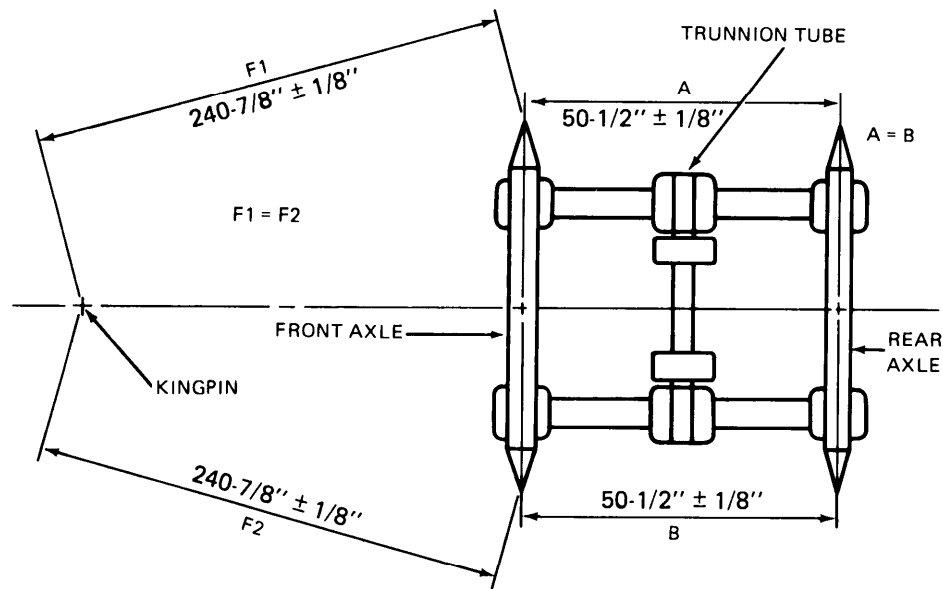

Figure 5-6. Axle Alignment
- (1) Measure the distance from the kingpin to the centerline of the spindles on the front axle (fig. 5-6). The measurement should be $240 - 7/8" \pm 1/8$ inch.
- (2) Tighten u-bolts and spring cap bolts on front axle.
- (3) Align rear axle with the front axle by measuring between the spindles. The measurement should be $50 - 1/2" \pm 1/8$ inch.
- (4) Tighten rear axle u-bolts and spring cap bolts.
- (5) Recheck the alignment of the front axle with the kingpin and the rear axle with the front axle.